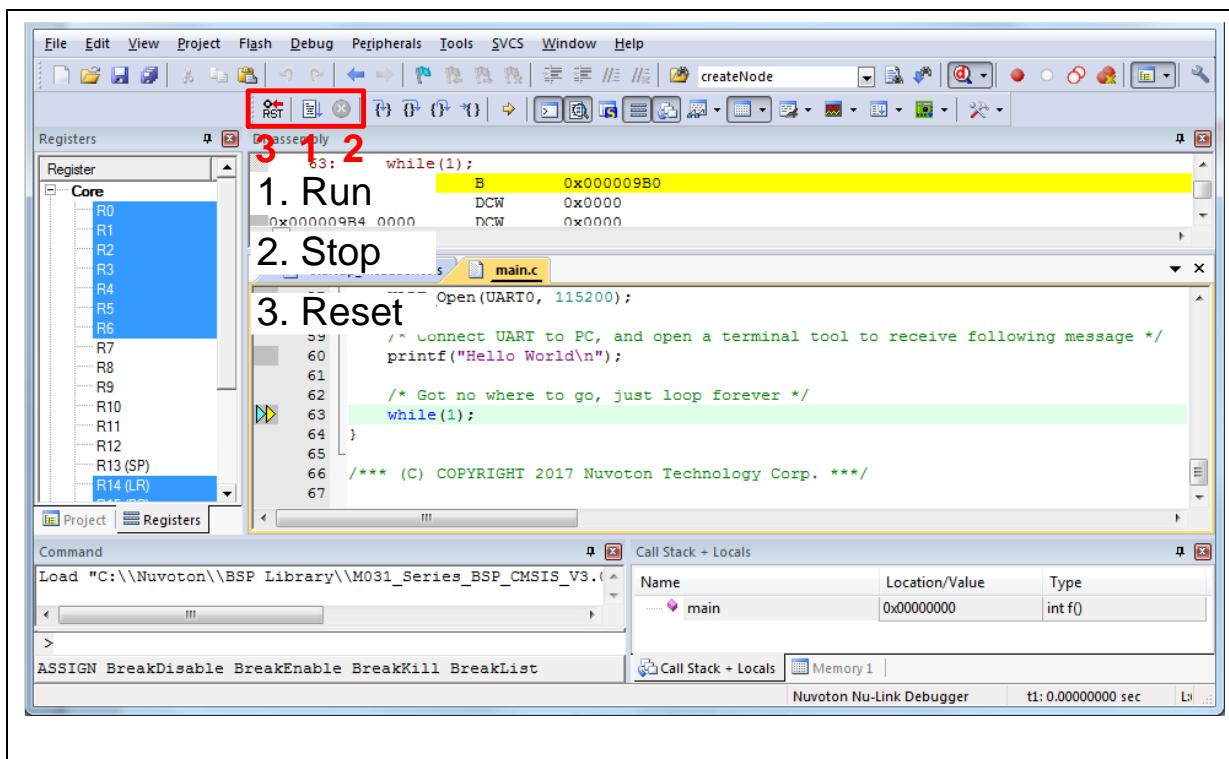
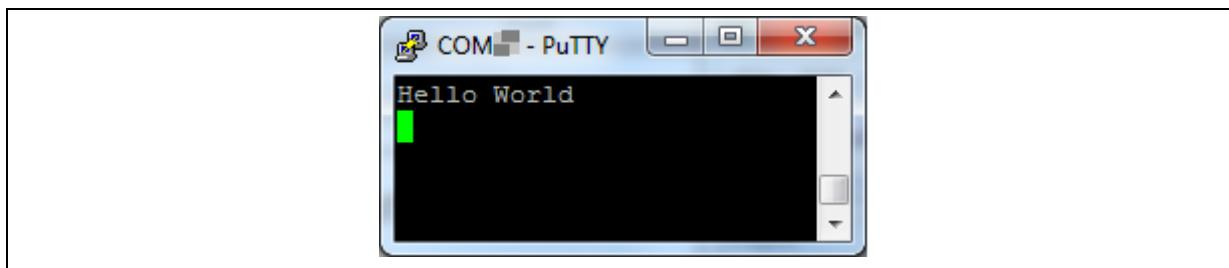

Figure 3.6-5 Keil MDK Debug Mode
Figure 3.6-6 Debug Message on Serial Port Terminal Windows
- Figure 3.6-5 shows the debug mode under Keil MDK. Click “Run” and the debug message will be printed out as shown in Figure 3.6-6. User can debug the project under debug mode by checking